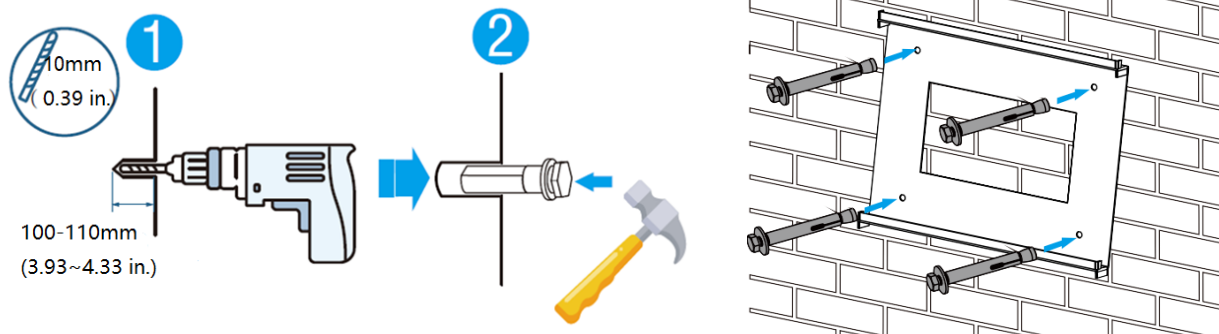
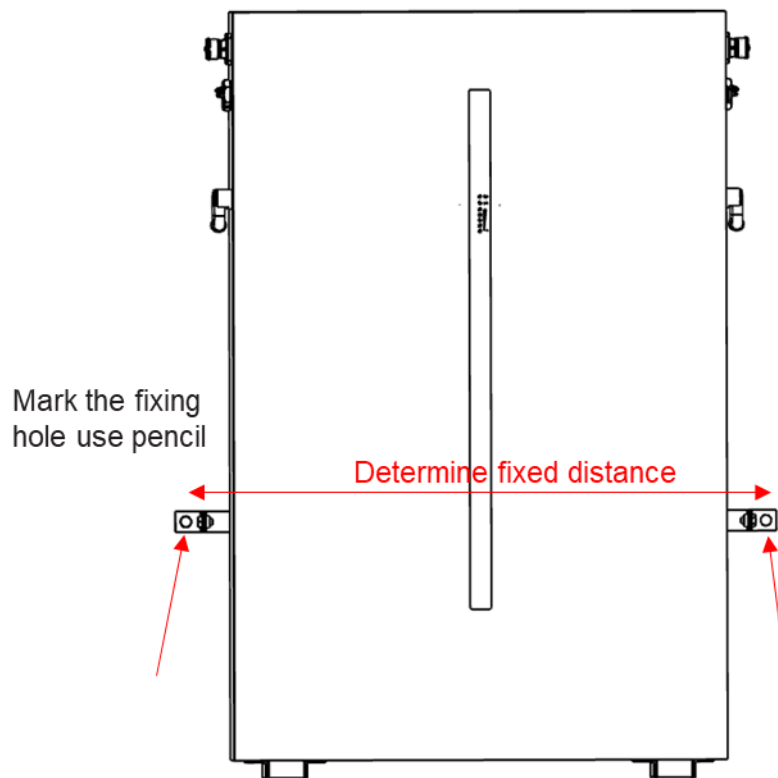

Figure 5-2
Figure 5-5
b) Choose the recommended drill head (as shown in Figure 5-2) to drill 4 holes on the wall, 100mm-110mm deep.
c) Use a proper hammer to fix the hanging plate to the wall, fit the expansion bolt into the holes, as shown in Figure 5-2.
b) Stand the battery on the side of the wall, mark the location of the fixing hole, Choose the recommend drill head (as shown in below picture) to drill 2 holes on the wall, 100-110mm deep, as shown in Figure 5-2 and Figure 5-5.
as shown in Figure 5-2.